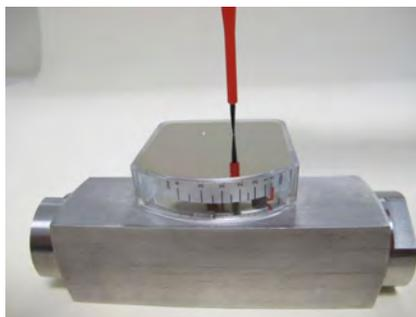

Fig. 66
25. ▶ Fasten the screws securing the display cover plate, observing the proper tightening torque (Fig. 66) ( *Chapter 11.1 “Tightening torque” on page 82*).